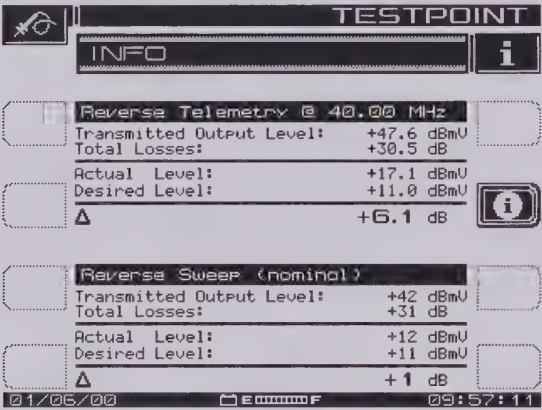

Fig. 4-4 Telemetry and Sweep Generation and Injection Levels
Press this soft key to call up the TESTPOINT INFO screen shown in Fig. 4-4. This screen provides information for telemetry and sweep about transmitted output levels, total losses, and actual and desired levels and the delta between them.
5. The telemetry and sweep generation and injection levels are displayed in the TESTPOINT INFO screen (see Fig. 4-4). The generated levels are calculated based on the desired system levels set at the main SWEEP configuration menu (see "Sweep Configuration" on page 60), and the test point losses entered here. The telemetry level is calculated precisely for a specific frequency and level. This value can be used with the headend display to perform absolute level alignment, so it is calculated to 0.1dB resolution.